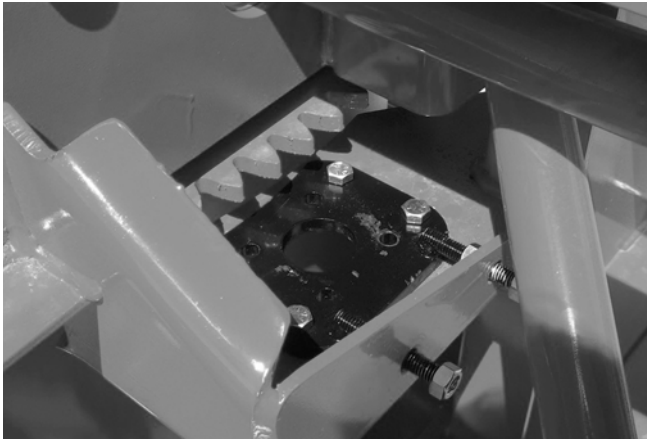

Figure 19
- 2) Install the mounting plate tightening the bolts lightly (Fig. 19).